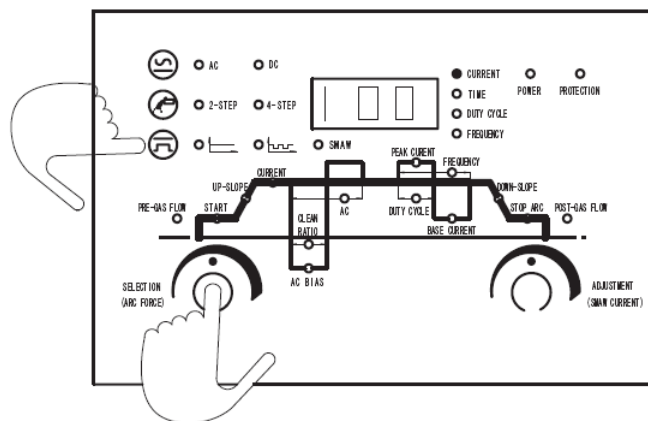

Fig. 4-3-16: Restore to factory setting
- Press and hold the parameter selection knob and CC/Pulse/SMAW button at same time for 3 seconds to restore to factory setting (Fig. 4-3-16).